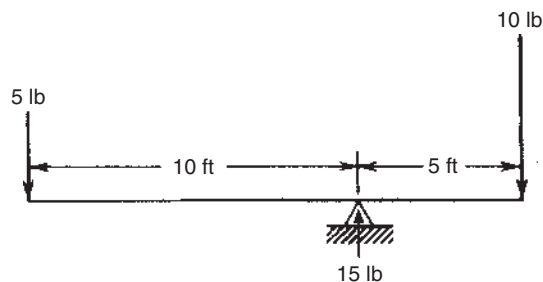

Fig. 1.8. Seesaw in equilibrium.
2. There must be no unbalanced moments acting on the body. Mathematically, $\Sigma M = 0$ (Fig. 1.8).
Moments at the fulcrum in Fig. 1.8 are 50 ft-lb clockwise and 50 ft-lb counterclockwise. So, $\Sigma M = 0$. To satisfy the first condition of equilibrium, the fulcrum must press against the seesaw with a force of 15 lb. So, $\Sigma F = 0$.